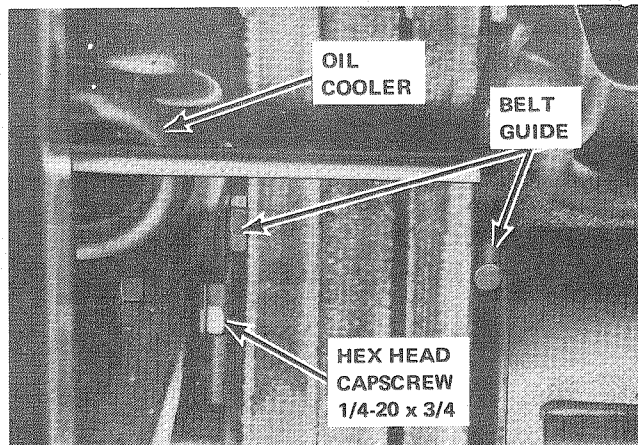

Figure 6
8. Loosen nut on belt guide finger approximately 3/16 inches. Install hex capscrew 1/4-20 x 3/4 and hex nut into axle support; see figure 6. Leave nut on capscrew loose as on belt guide.